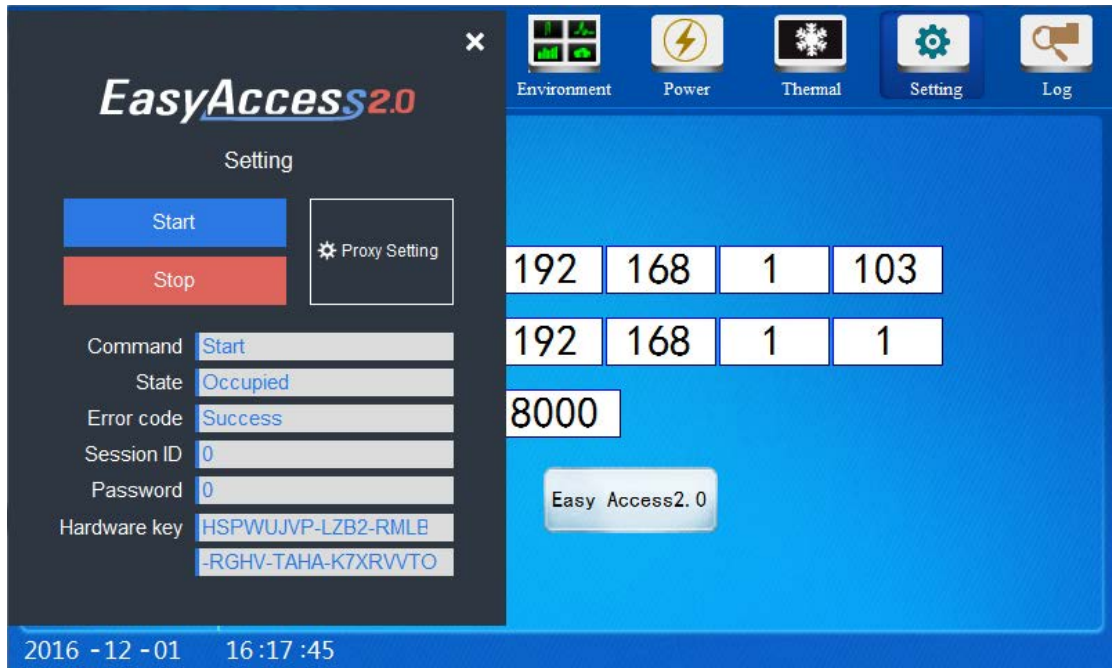

Figure 4-25 EasyAccess2.0 interface
Step 1: Enter the Web setting submenu under the Setting menu of the touch screen, click “ Easy Access 2.0” Button, the page shown in Figure 4-25. Then click start, it will show “ success” if connect successfully.